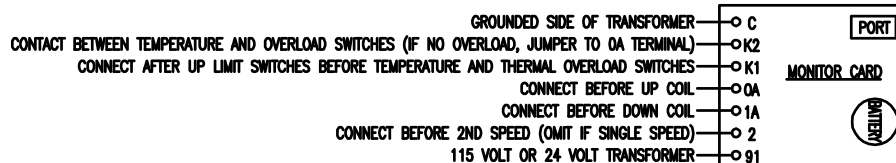

FIGURE 2
- 1) Review electrical schematic. See Figure 2.